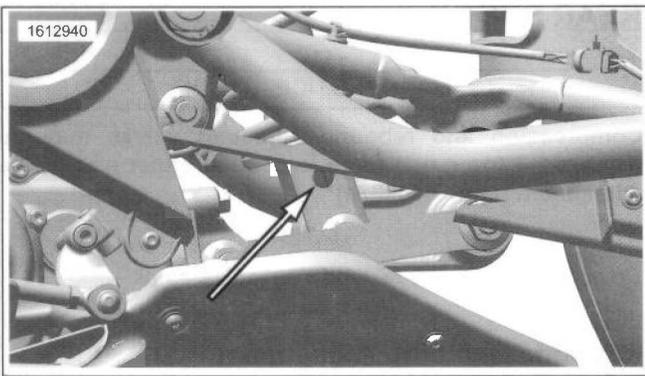

Figure 2-33. Rebound Adjuster
1. See Figure 2-33. Use a flat blade screwdriver to turn rebound adjuster clockwise in the H (hard) direction until it stops. This is the maximum rebound damping setting.